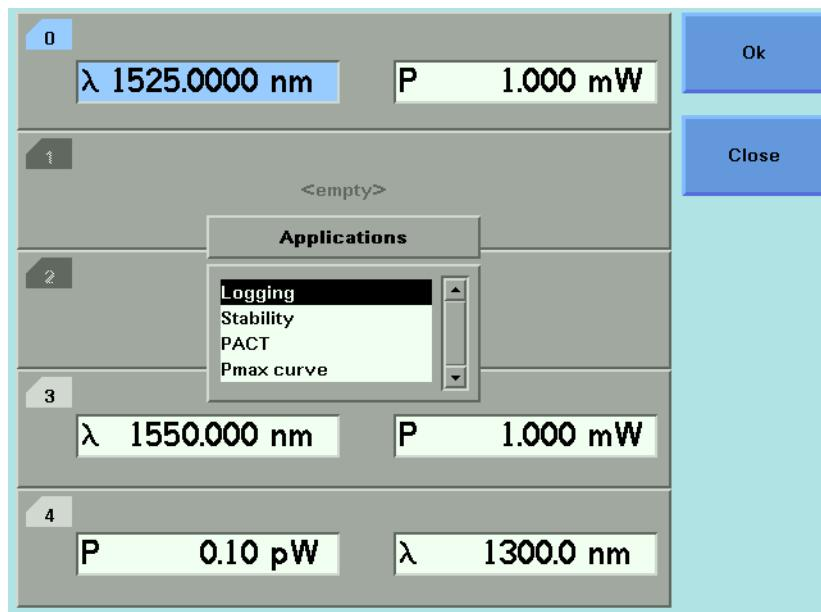

Figure 146 The Applications Menu
- 1 Press the *App*/ hardkey. The Applications menu, as shown in Figure 146 , appears.